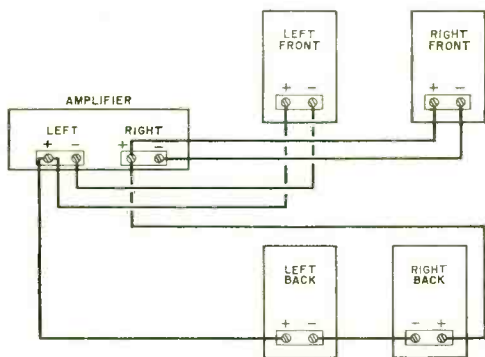

Fig. 8. Early Dynaco speaker hookup.
**Dyna System.** The original Dynaco proposal for achieving a 4-channel effect from existing stereo discs involved no black box at all. All that had to be done was to connect two rear speakers so that they were fed the *difference* between the left and right stereo signals as shown in Fig. 8. When a
recording is made in a concert hall, many of the reverberant signals arrive at the microphones out-of-phase with respect to the direct sound waves. In Fig. 8, such signals would acoustically *cancel* in a normal stereo speaker hookup but are reinforced in the rear speakers which are hooked up to reproduce L-R signals. Of course, the effectiveness of this arrangement depended upon the amount of out-of-phase material contained in the original stereo recording.